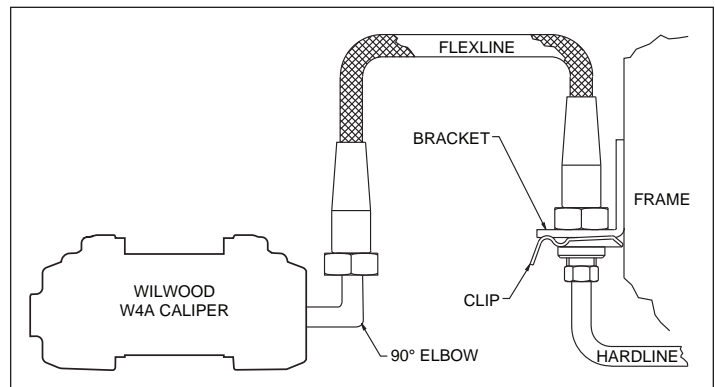

Figure 4. Brake Line Diagram
- **NOTE:** The caliper in this brake kit utilizes a 1/8-27 NPT pipe thread inlet. OEM rubber brake hoses generally cannot be adapted to Wilwood calipers. Install Wilwood's stainless steel braided flexline hose kit, part number 220-8173 for C-5, 220-9101 for C-6 (both sold separately), as shown in Figure 4. **NOTE:** The specified Wilwood hose kits may not work on all Years, Makes, or Models of the vehicle that this brake kit is applicable to, due to possible OEM manufacturing changes during the vehicle's production life. **Carefully route hoses to prevent contact with moving suspension, brake, and wheel components.** It is the installer's responsibility to ensure that all fittings and hoses are the correct size and length, that they are properly sealed, and that they will not be subjected to crimping, strain, or abrasion from vibration or interference with suspension, brake, or wheel components.